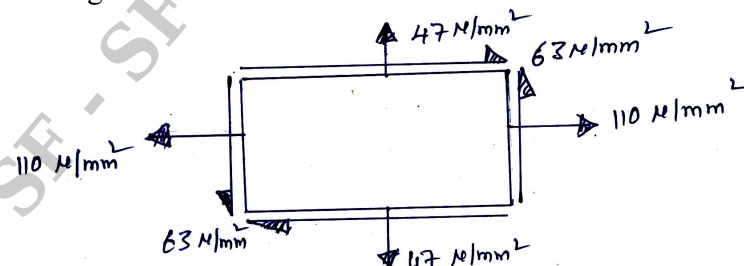

Fig.Q3(c)
- c. A rectangular block of material is subjected to a tensile stress of 110 N/mm² on one plane and a tensile stress of 47 N/mm² on a plane at right angles, together with a shear stress of 63 N/mm² on the same planes as shown in Fig.Q3(c). Find